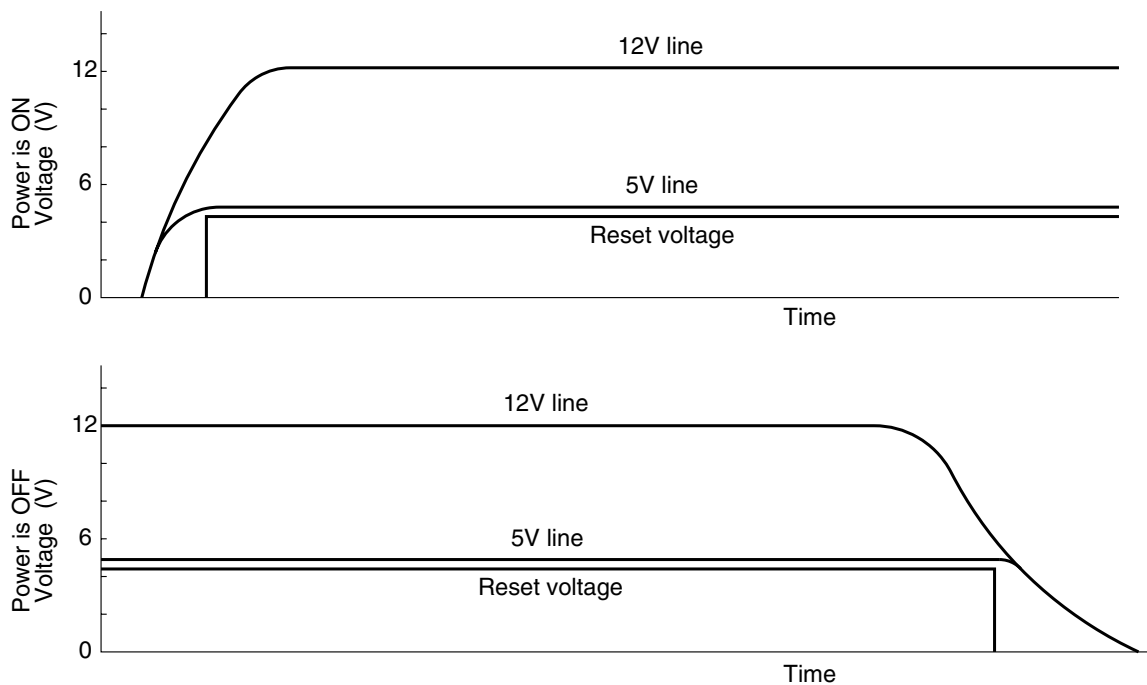

Fig. 9-2
- Fig. 9-1 shows the reset circuit and Fig. 9-2 shows waveform at each point when power is turned on and off.
- When power is turned on, 12V line and 5V line voltages rise and 12V line voltage reaches 10.9V and reset voltage input to pin ④8 of microcomputer is set to Hi.